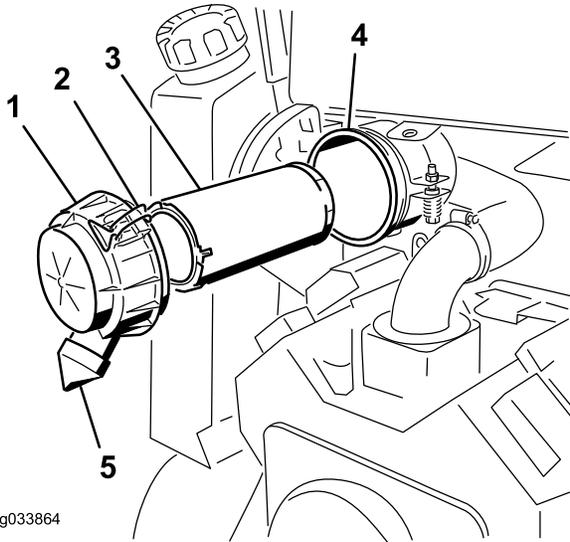

Figure 33
Important: Service the air-cleaner filter only when the service indicator shows red (Figure 33). Changing the air filter before it is necessary only increases the chance of dirt entering the engine when you remove the filter.
4. Release the latches on the air cleaner and pull the air-cleaner cover off the air-cleaner body (Figure 33).
1. Gently slide the primary filter out of the air-cleaner body (Figure 33). Avoid knocking the filter into the side of the body.
3. Carefully slide the primary filter into the filter body (Figure 33). Ensure that it is fully seated by pushing on the outer rim of the filter while installing it.
4. Install the air-cleaner cover with the side indicated as UP facing up and secure the latches (Figure 33).